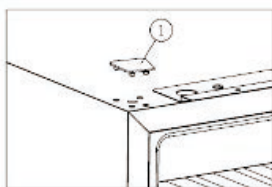

Figure 3
- Enlevez le couvercle ①. [Figure 3]